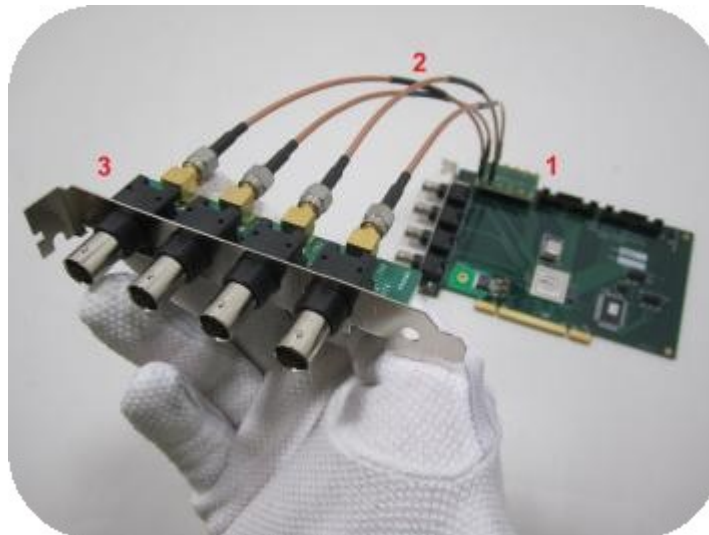

Figure 25: IDC to BNC Adapter Set-Up with a PulseBlasterESR-PRO Board.
5. IDC to BNC Adapter Set-Up on a PulseBlasterESR-PRO Board Figure 25 – Additional BNC output signals can be accessed using a set-up consisting of an IDC-MMCX adapter board (SP32), MMCX-SMA cables, and an SMA-BNC adapter board (SP29P).